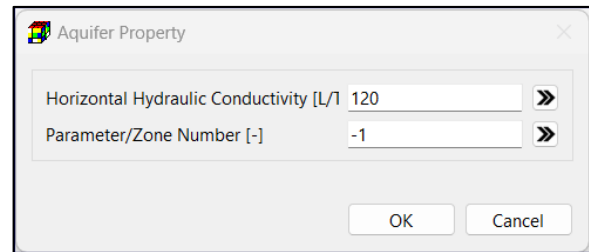

Figure 21. The Aquifer Parameter dialog box
- Most polyline data entry dialog boxes include » buttons next to data entry fields. Figure 21 illustrates the Aquifer Parameter dialog box with these buttons. Clicking the button next to a parameter applies the data to the corresponding model cells along the polyline.